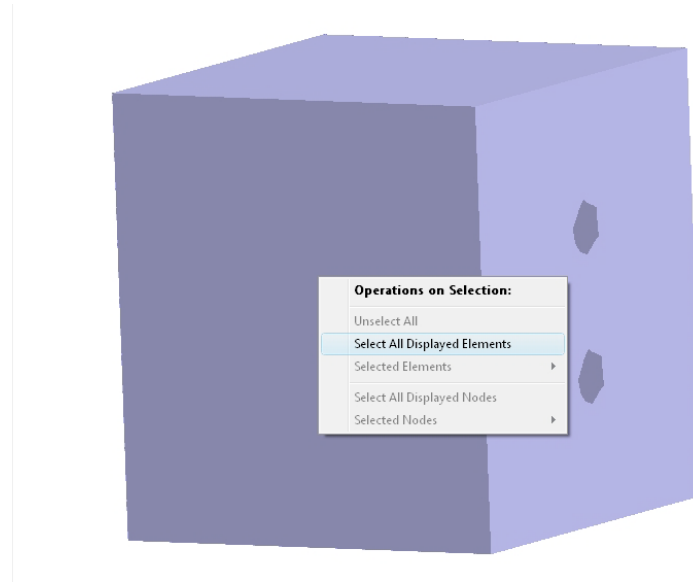

Figure A.33 Select all displayed elements in the GUI.
- Right-click on the mesh while holding down the *shift-key* to view a pop-up context menu shown in Figure A.33 and select: **Select All Displayed Elements**.
- Left-click on the elements around the edge of a hole while holding the *shift-key*. Make sure to select elements with nodes on the hole edge (similar to the Figure A.33).